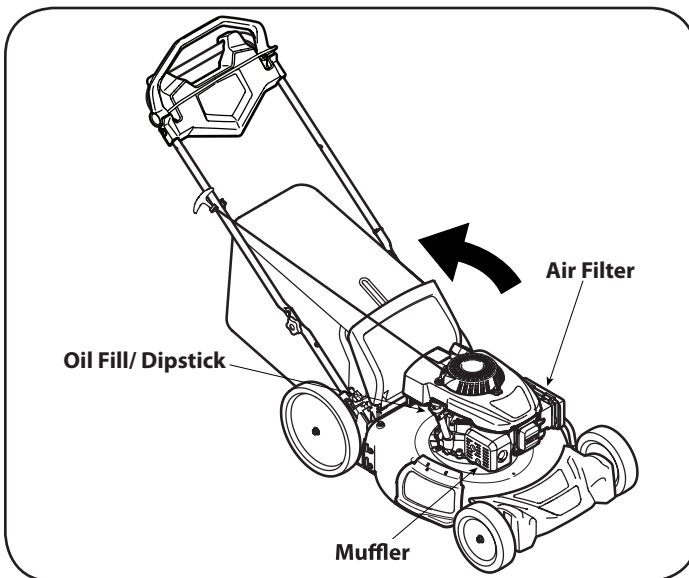

Figure 18
3. Remove the drain plug and drain the oil into the container by tipping the engine toward the oil fill/dipstick. See Figure 18.